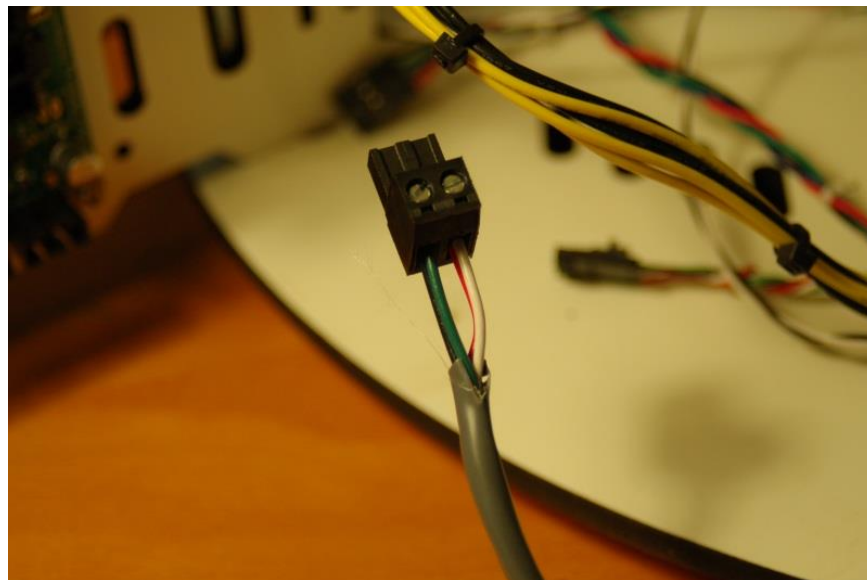

Figure 98 – Heated Bed power connector.
20.5 – Pull the four conductor cable through the bottom of the machine so it ends up in the section where the RAMBo is located. Cut the cable long enough that you'll be able to have the electronics door completely open with the heated bed connector still plugged in. Install the connector like shown in Fig. 98. Please make sure you wire it as shown if you followed my color guide above – if you mix the polarities of the wires, you'll either blow the fuse on the RAMBo or destroy it.